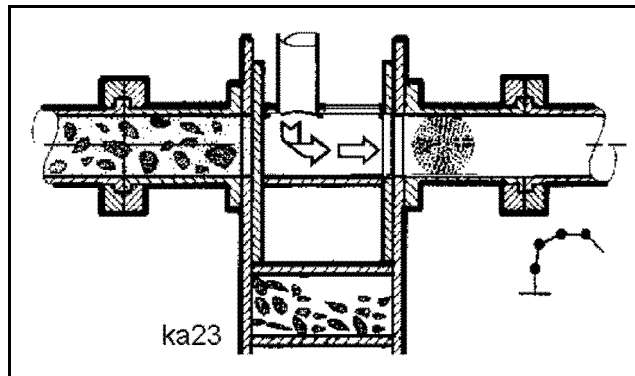

Fig. 464
- Retract the chamber and move the ball into the pumping line with a short blast of air (**Fig. 464**).